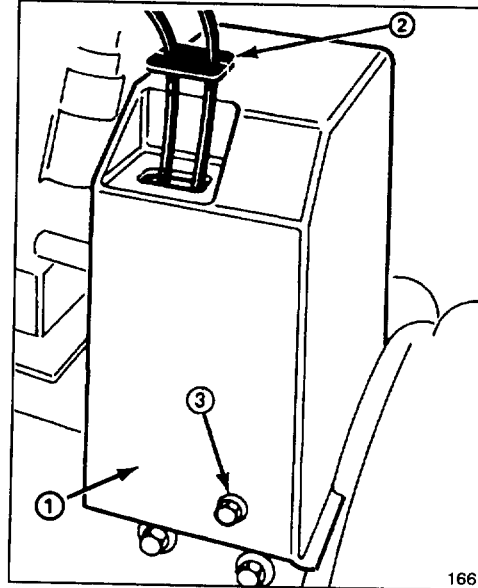

Figure 3
9. Mount upper belt cover to engine frame with (3) 1/4-20 x 1/2" lg. flange head capscrews (Fig. 3).